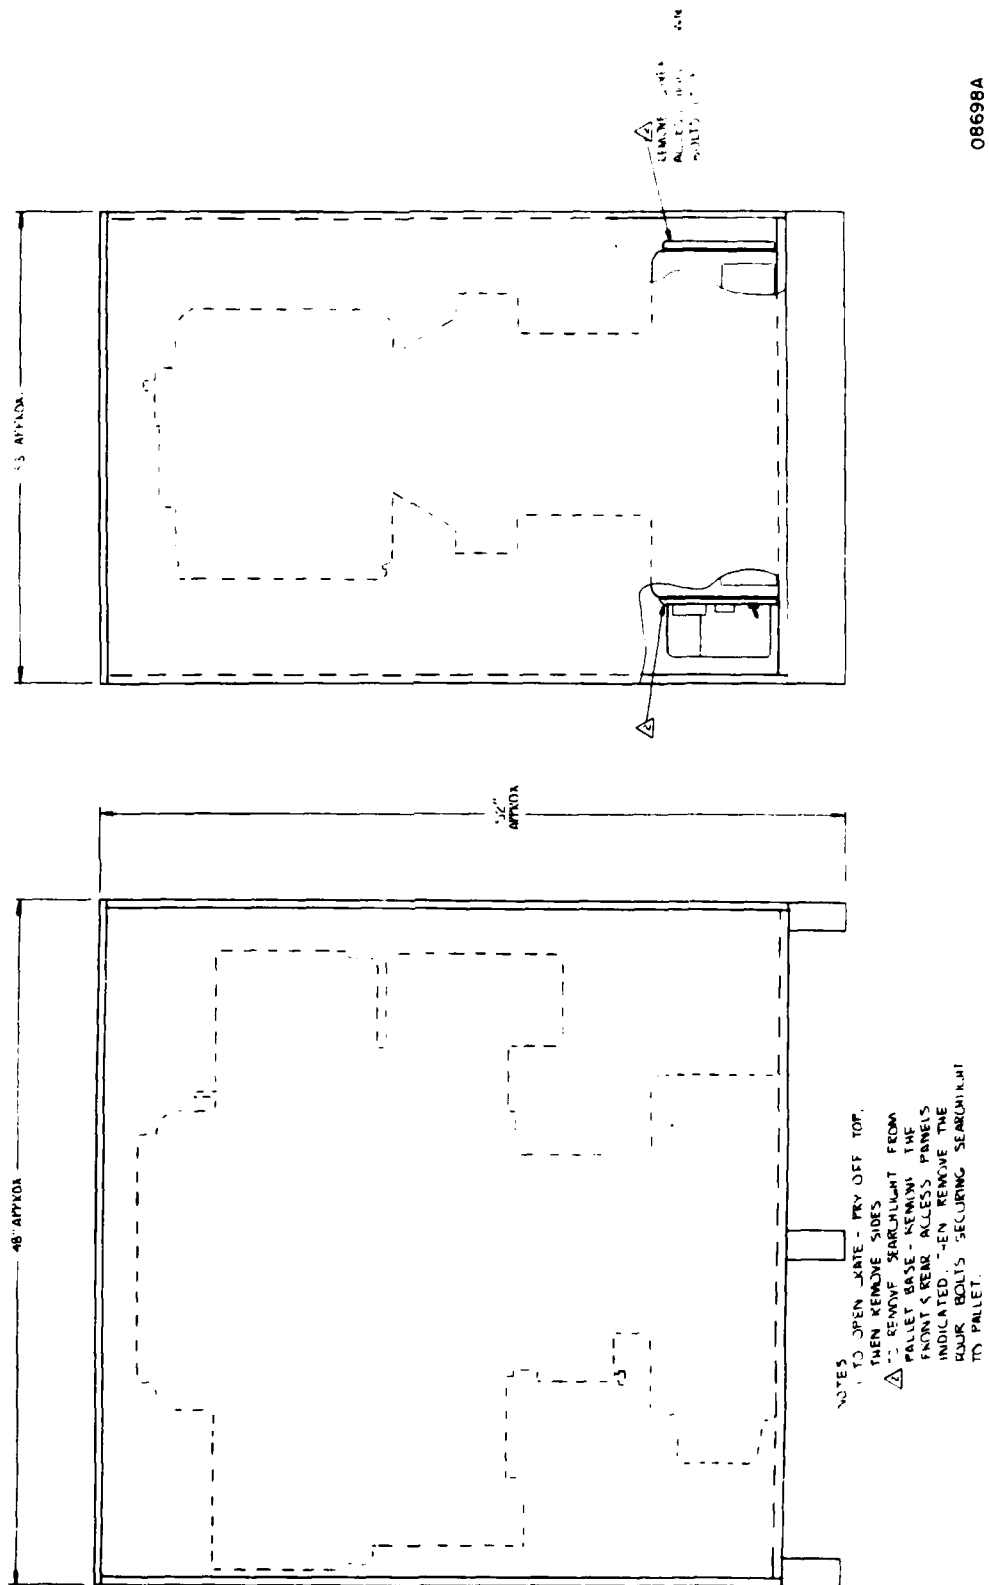

Figure 2.3. Positioner Shipping Crate
- c. Remove two small covers (3) at the opposite (right) side of the base.
- f. Hoist the positioner from the deck by nylon slings positioned under the horizontal member of the yoke (1).
- g. Place the positioner in a shipping crate similar to that shown in Figure 2.3.